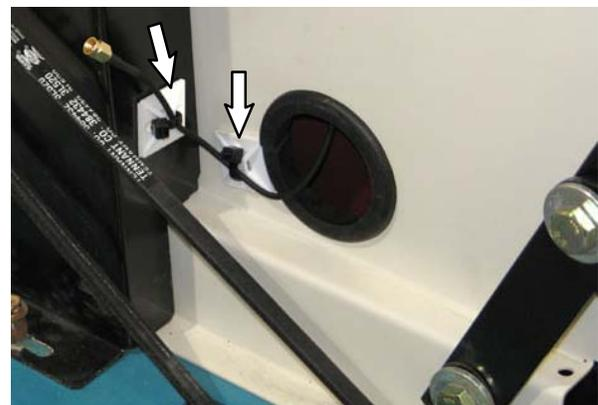

FIG. 16
23. Route the antenna (6) wire through the grommet in the hole below the telemetry control box (1). Use cable tie mounts (16) / cable ties (17) to secure the antenna wire away from the belt. (Fig. 16)